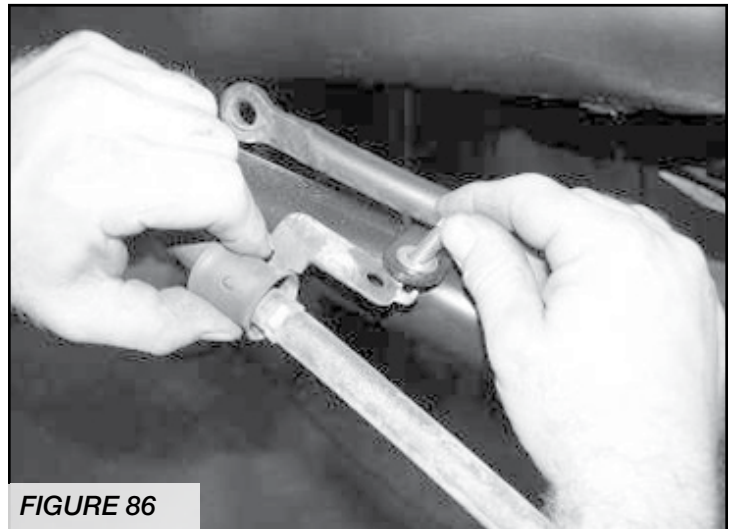

FIGURE 86
54. Attach the factory e-brake cable bracket with the supplied 5/16" hardware to the mounts on the new lower links. Torque to 15 lbs. **SEE FIGURE 86**